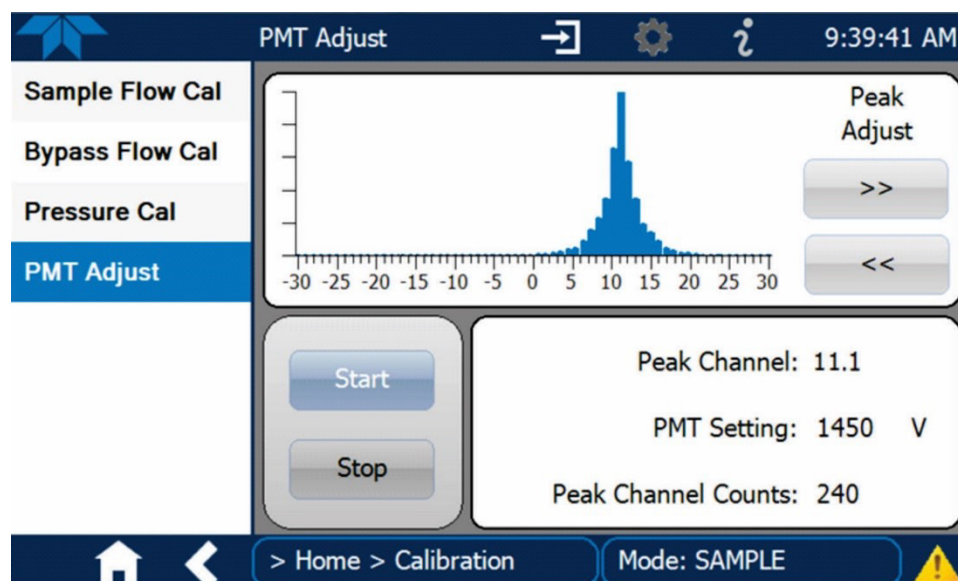

Figure 20. PMT adjust screen.
11. If after two tries the Peak Channel reading is not within ± 0.5 of the SpanDust™ value stated on bottle, then adjust the PMT Setting by pressing the Peak Adjust left (decrement) or right (increment) buttons to center the Peak voltage (Figure 20). Each press of the button corresponds to one volt.